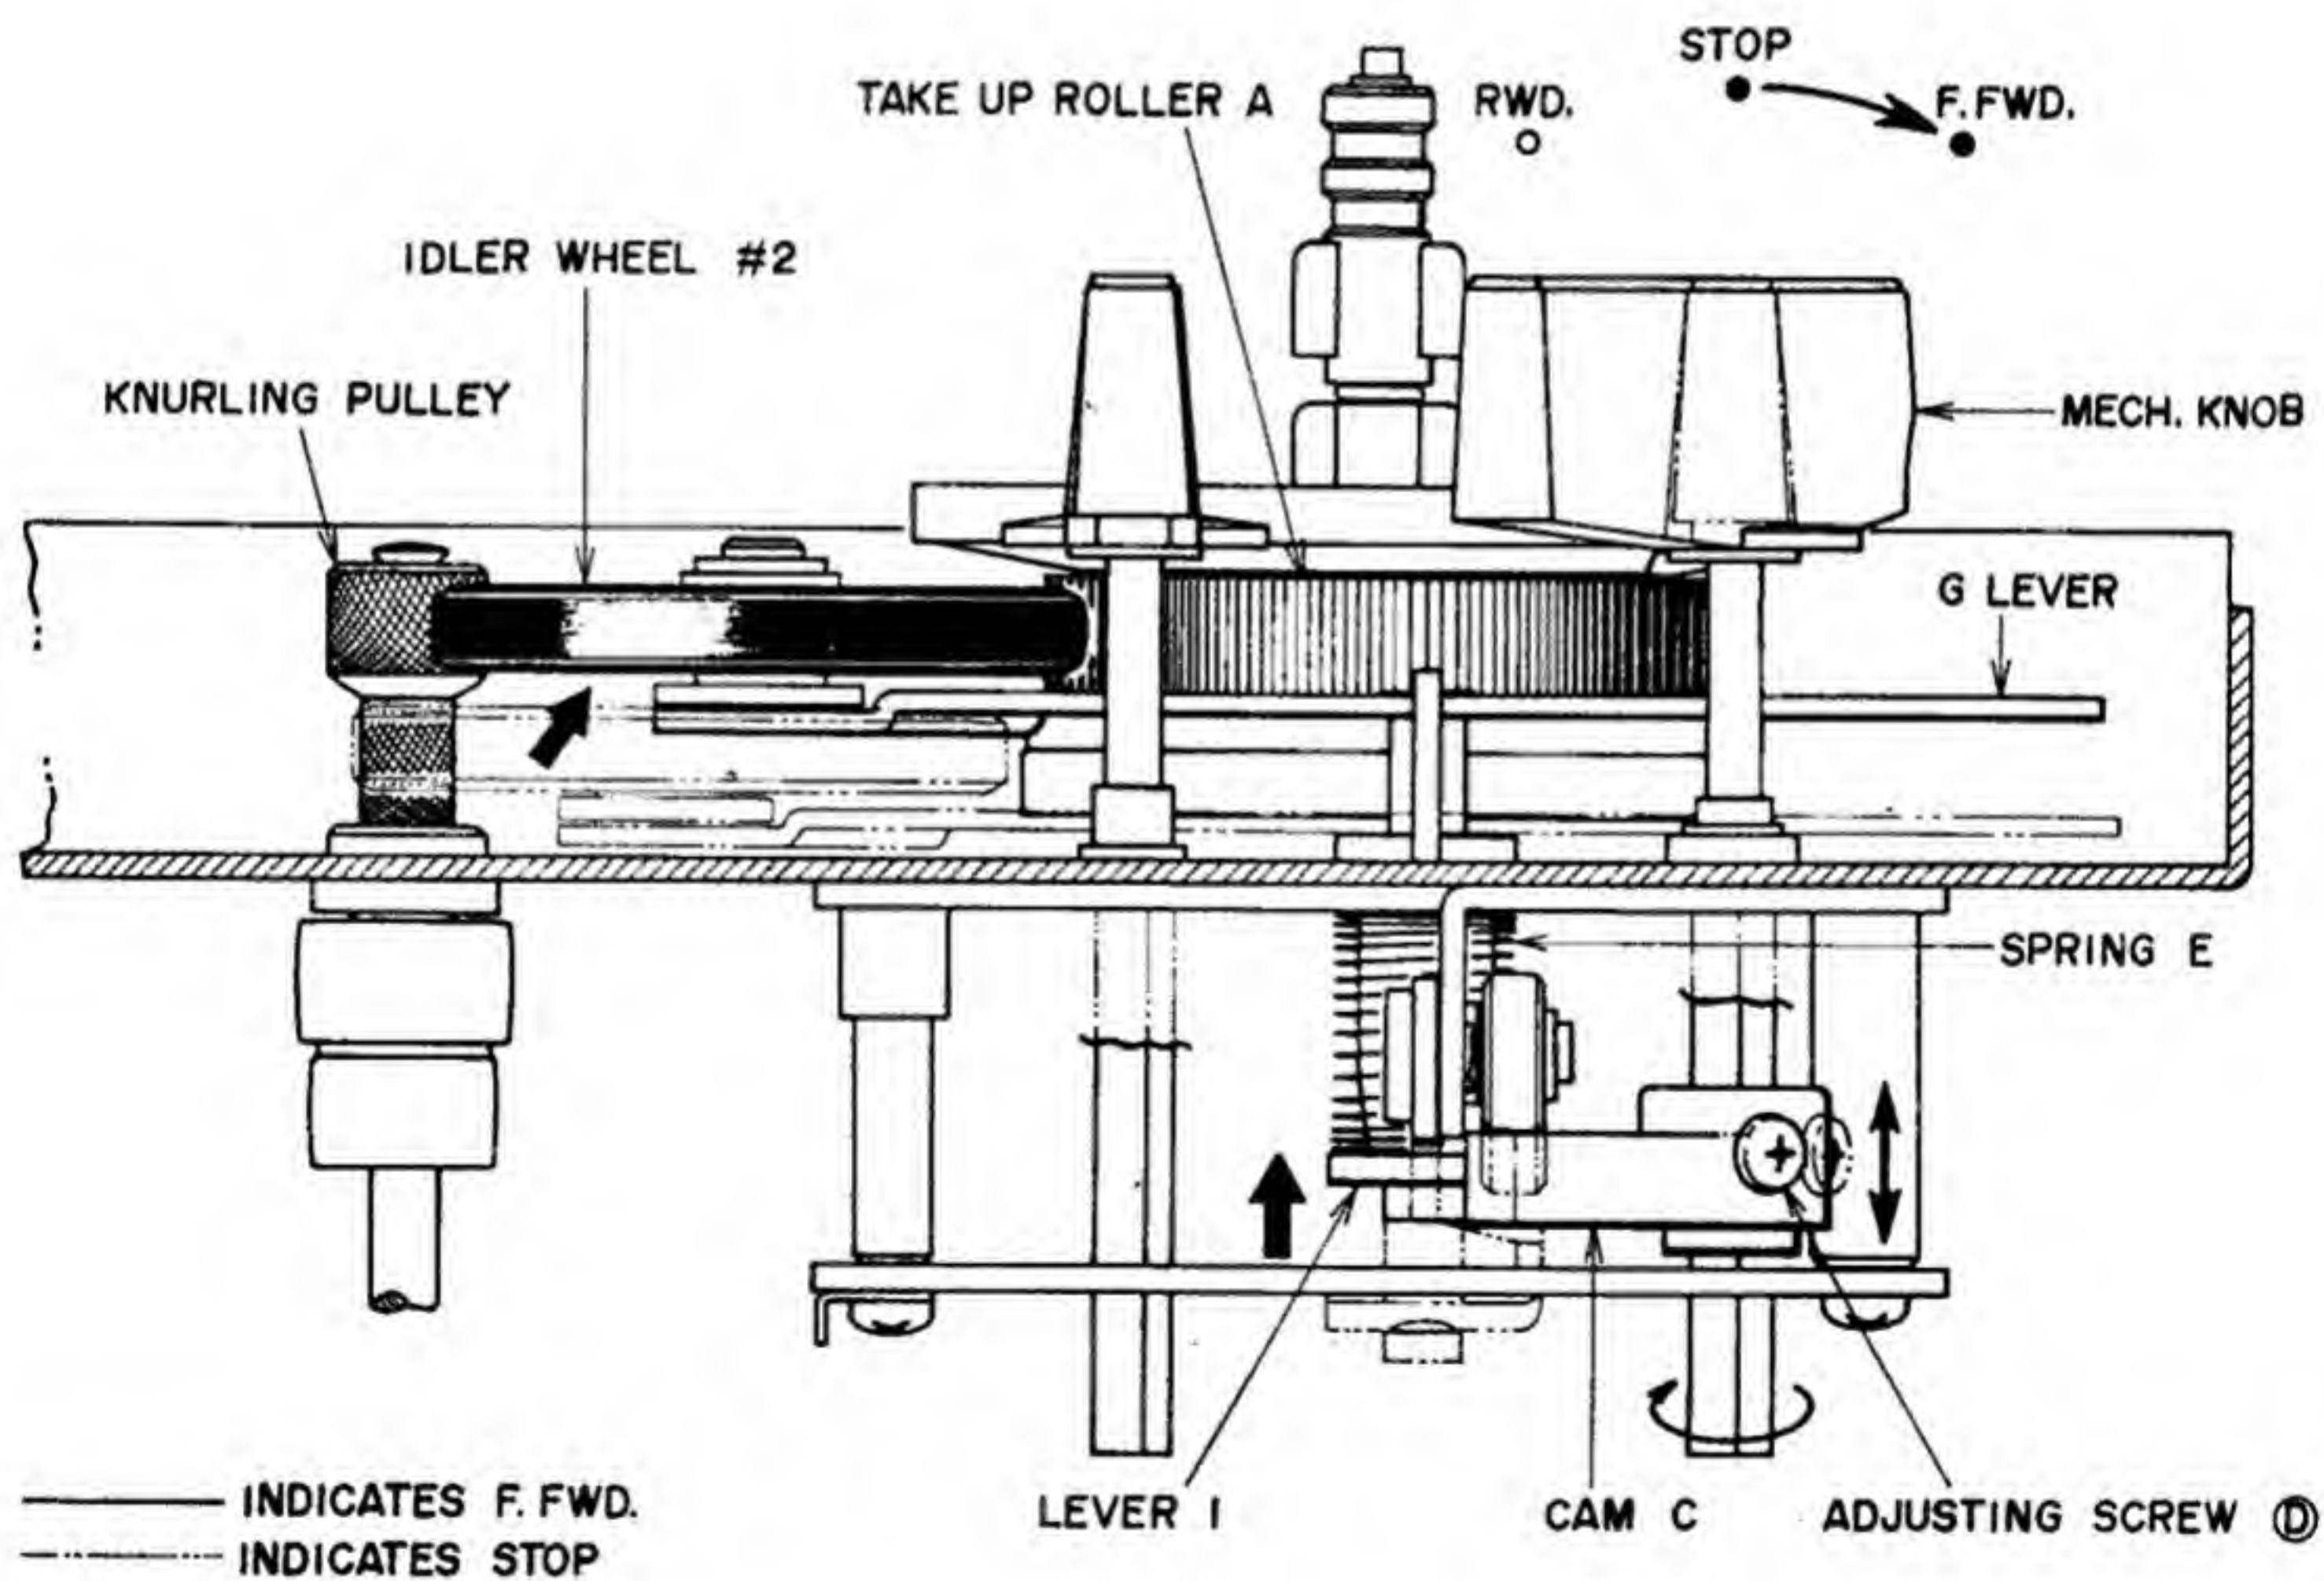

Fig. 14
6. ADJUSTMENT OF IDLER #2 POSITION AT FAST FORWARD MODE (See Fig. 14)
Move Cam ③ shown in Fig. 14 up and down as indicated by the arrow mark (↔) in the figure and adjust Lever ④ height so that Idler #2 contact between Take Up Roller A and the knurling Pulley is uniform when the F.FWD/RWD Lever is set to F.FWD position. Fix at adjusted position with Adjustment Screw ⑤. During operation, confirm that the rotating position of Idler #2 is ideal.